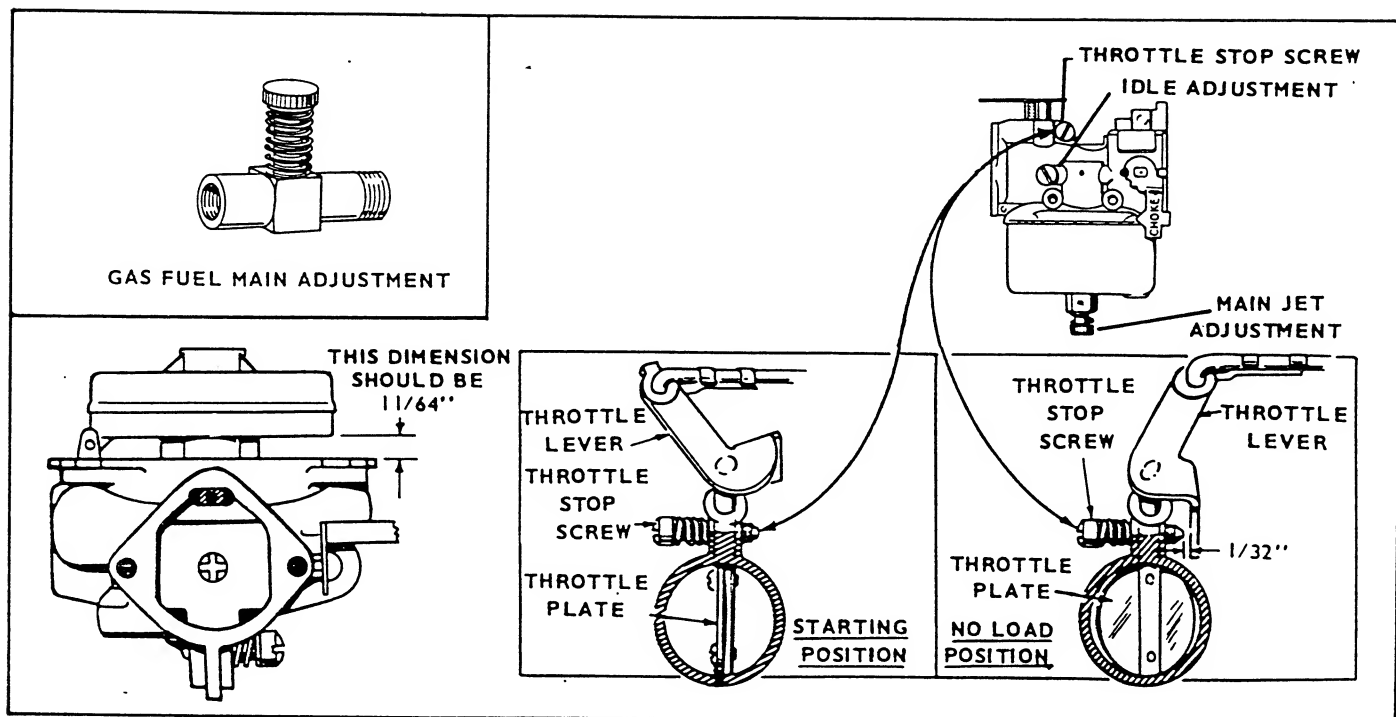

FIGURE 9. CARBURETOR ADJUSTMENTS
The carburetor (Figure 9) has a fuel main (high speed) adjustment (needle A) and a fuel idle adjustment (needle B). The main adjustment affects operation under heavy
Set throttle stop screw (located on carburetor throttle lever) with no load connected and while running at rated speed. Turn the screw to give 1/32" clearance between the screw and pin (Figure 9).
Adjust much the same as gasoline carburetors, using gas fuel adjustment located in the fuel inlet (Figure 9) to adjust when running on gas. Gas-only carburetors have no idle adjustment beginning Spec E.
**Gas Fuel:** Normal choke setting is fully closed with engine not running. Turn adjusting screw (Figure 9) in for less choking, out for more choking. Units beginning with Spec E do not have a choke.